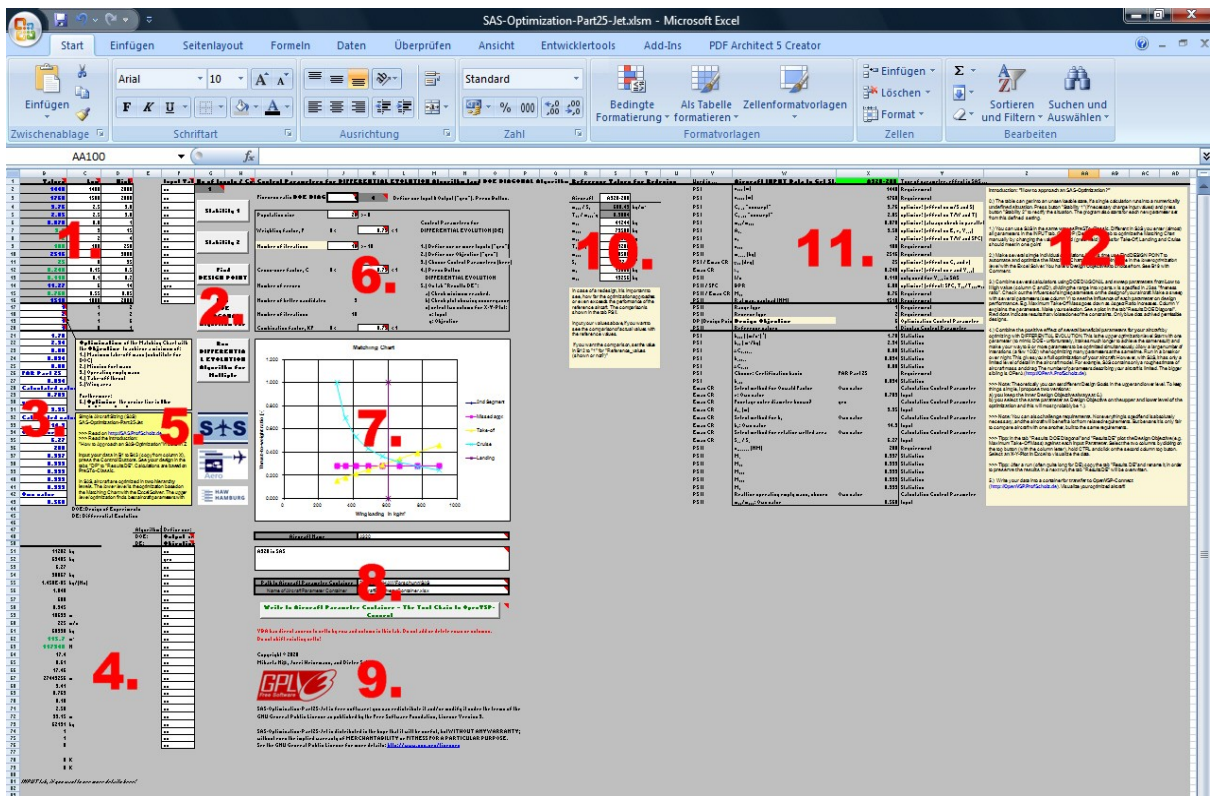

Figure 4: Overview of SAS-Optimization-Part25-Jet
Figure 4 shows an overview of the main window of SAS-Optimization-Part25-Jet. This is the main tab to work with and there is little need to go to another tab (besides the tabs with the results). Not everything of the INPUT tab fits on one screen, and there is no need for it. Most important elements are in the upper left corner. These are the numbered areas:
1. **Read the Tutorial:** "How to approach an SAS-Optimization?" (See Number 12 in Figure 4).